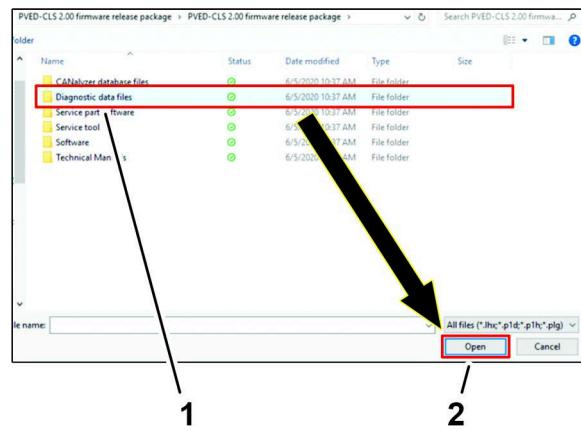

Figura 56
4. Clique na pasta Diagnostic data files, e clique no ícone OPEN (Figura 56).